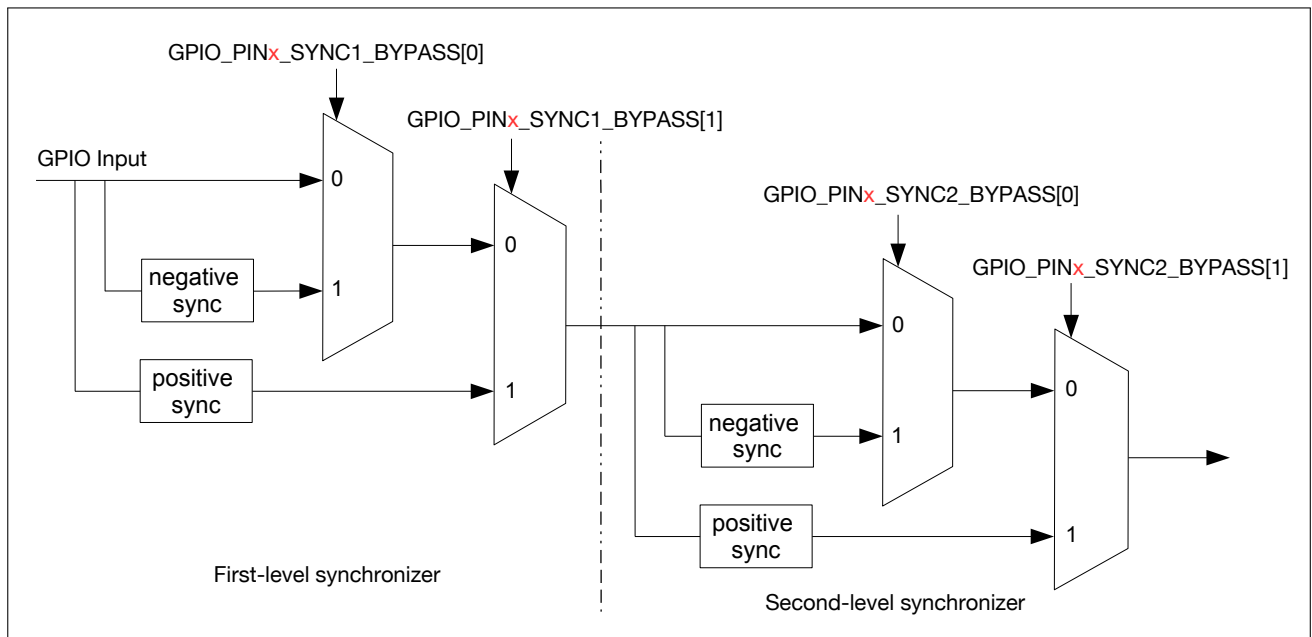

Figure 6-3. GPIO Input Synchronized on Rising Edge or on Falling Edge of IO MUX Operating Clock
Figure 6-3 shows the functionality of GPIO SYNC. In the figure, negative sync and positive sync mean GPIO input is synchronized on falling edge and on rising edge of IO MUX operating clock respectively.
The synchronization function is disabled by default by the synchronizer, i.e., `GPIO_PINx_SYNC1/2_BYPASS [1:0] = 0`. But when an asynchronous peripheral signal is connected to the pin, the signal should be synchronized by the two-level synchronizer (i.e., the first-level synchronizer and the second-level synchronizer as shown in Figure 6-3) to lower the probability of causing metastability. For more information, see Step 4 in the following section.
- Set `GPIO_PIN x _SYNC1_BYPASS` to enable input signal synchronized on rising edge or on falling edge in the first-level synchronization, see Figure 6-3.
- Set `GPIO_PIN x _SYNC2_BYPASS` to enable input signal synchronized on rising edge or on falling edge in the second-level synchronization, see Figure 6-3.